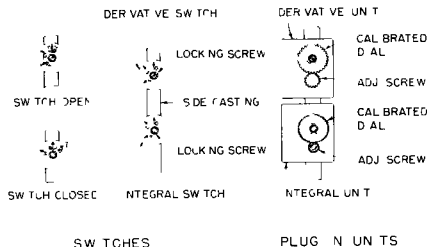
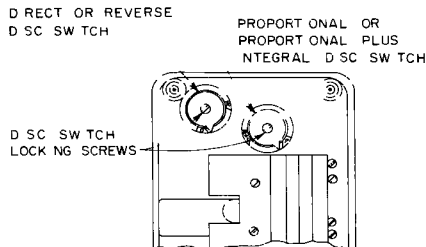

FIGURE 4 Integral and Derivative Switches and Plug in Units
FIGURE 5 Controller Rear View Showing D R and P P+I Switches
1 Set gain at 1.0. (Lock gain arm in place each time it is repositioned.) Set integral or derivative switches or plug in valves (Figure 4), "D R" switch and "P P+I" switch (Figure 5) to positions indicated in Table A and Figure 2.
15 Set integral and derivative control action units, if employed, to desired speed of response by rotating adjustment screw below calibrated dial See Figure 4. (To change integral unit dial range, refer to "Aligning the Controller" )
1 Set gain at 1.0. (Lock gain arm in place each time it is repositioned ) Set integral or derivative switches or plug in valves (Figure 4), "D R" switch and "P P-I" switch (Figure 5) to positions indicated in Table A and Figure 2
11 Disconnect variable input pressure and gage lines Set integral and derivative control action units, if employed, to desired speed of response by rotating adjustment screw below calibrated dial. See Figure 4
2. Remove four screws (19) in cover (20) and remove cover
3. Remove base (28) and spring (10)
4. To disassemble base (28):
a. Remove valve cap (14) and O ring (22).
b. Turn base over and let upper valve seat (13) and upper seat spring (11) fall out of base
c. Remove valve adjustment screw (12) from valve cap (14) by turning screw clock wise until threads disengage.
5. Hold clamp plate (5) with fingers. With other hand, pull exhaust section (3) away from clamp plate, permitting diaphragm to slip thru center of exhaust section. Remove nozzle section (2) in the same manner by pulling section away from lower seat (8)
6. To disassemble diaphragm assembly (5, 6, 7, 8), remove four screws (18) from clamp plate (5) and carefully pull sections apart.
7. Reassemble the unit in reverse order to disassemble, observing the precautions outlined below. Note that the four sections of the Relay (items 20, 2, 3, and 28 in Figure 5) have a projecting line on one face to serve as an alignment and reassembly guide.
8. Reassemble diaphragm assembly carefully to insure concentric alignment between diaphragms (17) and metal parts (5, 6, 7, 8). Apply Loctite Grade D (Loctite Corporation, Newington, Connecticut) cement to threads of four screws (18) before inserting in threaded holes. (Do not use sealing cement between diaphragms and metal parts.) Tighten screws evenly and gradually to a final torque of eight in lb
9. To reassemble nozzle section (2) and exhaust section (3), slip diaphragm (17) thru center hole of applicable section. Assemble so that indented sides of nozzle and exhaust sections face each other. Make sure that projecting lines on outside faces are aligned.
10. Assemble base (28), spring (10), and cover (20) to subassembly completed in steps 8 and 9. Press sections of Relay together firmly with hands. Make sure that projecting lines on all four sections are aligned.
11. With parts 9 and 11 thru 14 removed from base (28), observe alignment between seat (8) and hole in bottom of base (28). Exhaust valve seat in Item 8 should be centered under hole in base (28). If not, align parts as follows:
12. Remove base (28) and reposition diaphragm assembly (5, 6, 7, 8) slightly to obtain concentricity. (Separate Relay sections (20, 2, 3) slightly so that diaphragms are free to move when position of diaphragm assembly is changed.)
13. Reassemble base (28) and spring (10) to subassembly. Recheck alignment and reposition diaphragm assembly if necessary.